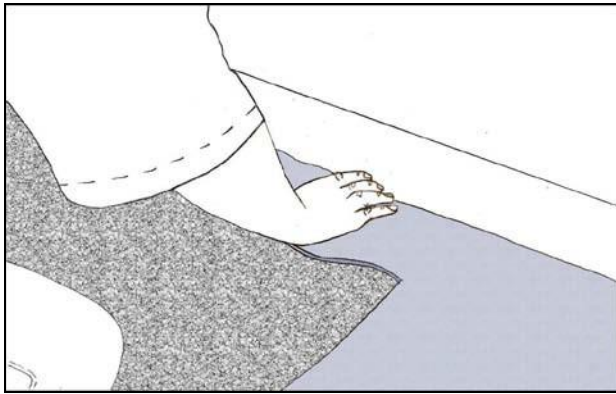

Fig 11.
1. Install material along one side of the external corner. (See Fig 11.)